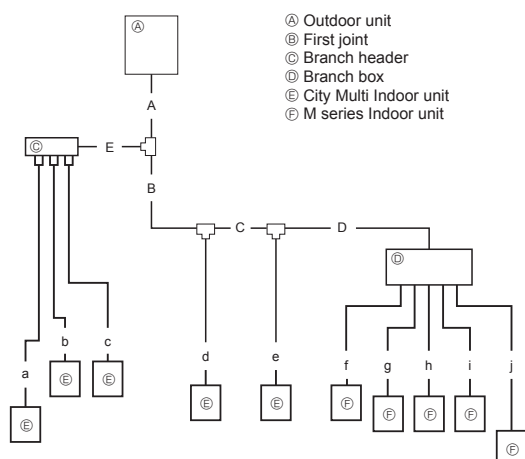

Fig. 4-7
4.1.3-4 Selecting pipe size (Fig. 4-7)